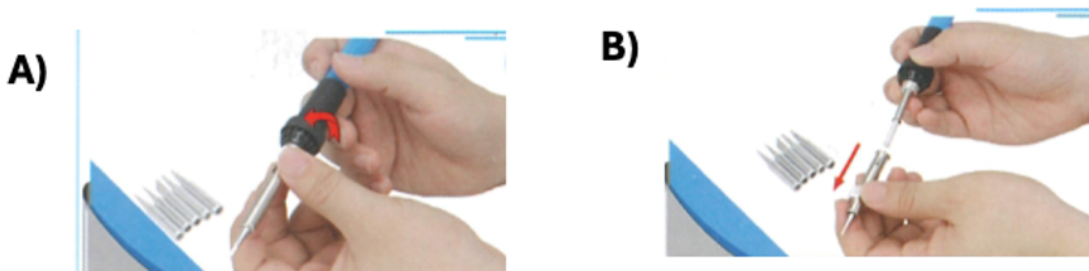

Figure 2. A) Inspect the soldering iron tip, B) Screw the tip into the iron and make sure it is hand tight
- Check soldering iron tip to ensure it is secure (hand tighten threaded rod if necessary) (**Fig 2**)